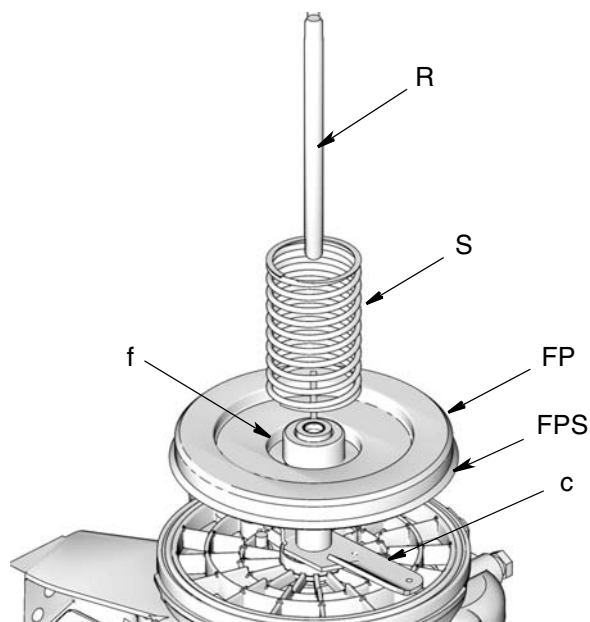

FIG. 11
2. Install follower plate (FP) on stirring paddle (c). Be sure the seal (FPS) is facing down (toward ricer plate) as shown in FIG. 11.